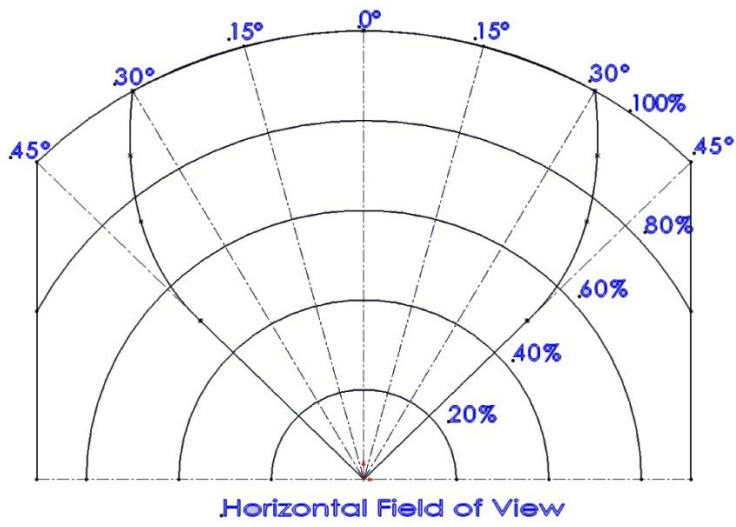
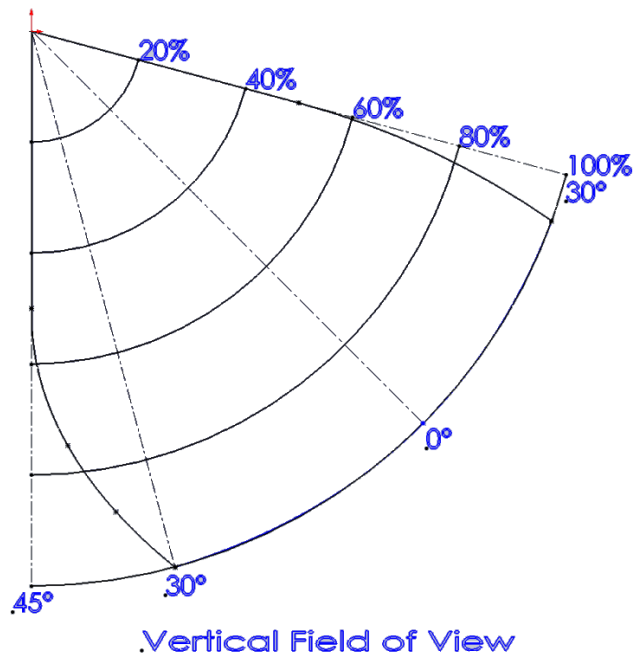

FIGURE 9 - HORIZONTAL FIELD OF VIEW
FIGURE 10 - VERTICAL FIELD OF VIEW
- The field of view of the detectors (See Figure 9 and Figure 10)